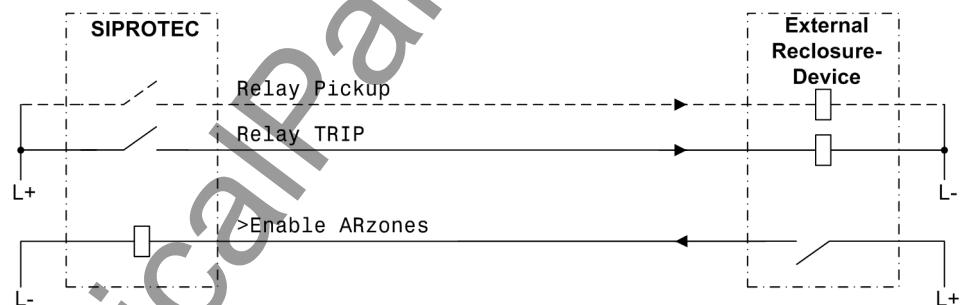

Figure 2-125 Connection example with external reclosure device for 3-pole AR
- For exclusively three-pole auto-reclosure cycles, the general pickup (No. 501, if required by the external reclosure device) and general trip signal (No. 511) from 7SD5 (see Figure 2-125) usually suffice.